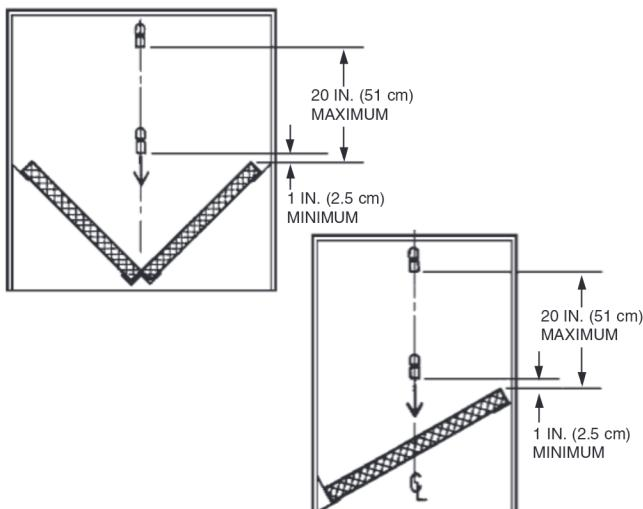

FIGURE 7
- Option 1:** The 1W nozzle must be on the center line of the single or "V" bank filter and positioned within 1-20 in. (2.5-51 cm) above the top edge of the filter. See Figure 7.